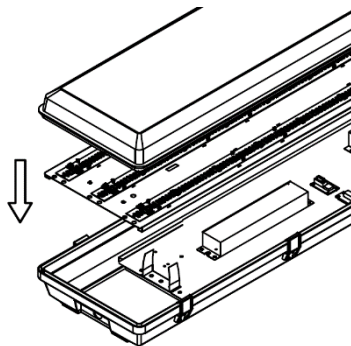

Fig. 7
7. Fasten the clips on the fixture. (Fig. 7)